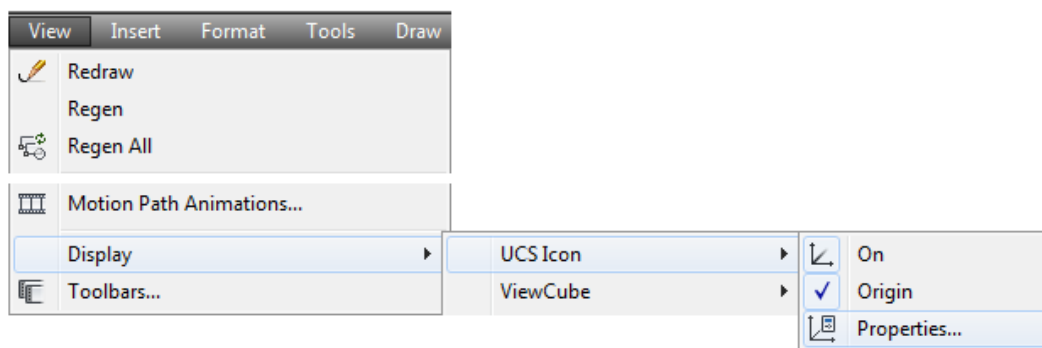

Figure Step 3A
Step 3 In the View pull-down, select Display - UCS Icon - Properties. Ensure that both On and Origin enabled as shown in the figure. This will open the UCS Icon dialogue box. Ensure that the settings are the same in your dialogue box as they are in the figure. (Figure Step 3A and 3B)